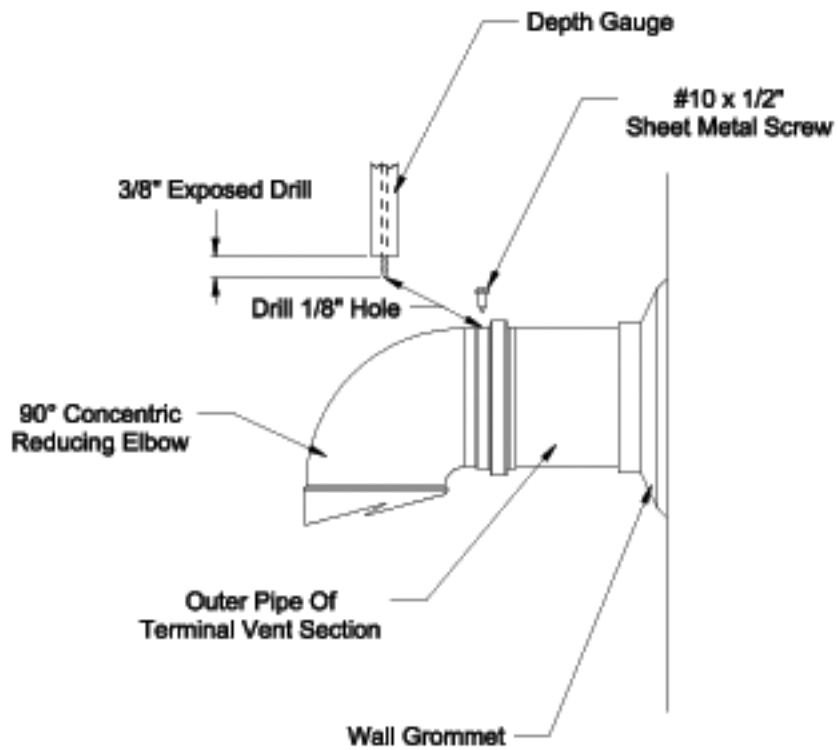

FIGURE 7.25: ATTACHING 60/100mm TERMINAL SECTION
- i) The terminal section must be attached to the elbow with a single #10 x 1/2" sheet metal screw (not supplied) at the top of the elbow. Drill a 1/8" hole in the location shown in Figure 7.25. **Use a short drill bit or a drill stop to ensure that the drill bit does not penetrate the pipe by more than 3/8"**. Install a #10 x 1/2" screw in this hole. **Do not use a screw longer than 1/2" long.**
- 8) Install the terminal as outlined in Step (4) above. Dimension "L" described in Step 4 is the distance from the exterior surface of the wall to the end of the last piece of pipe inside the building.